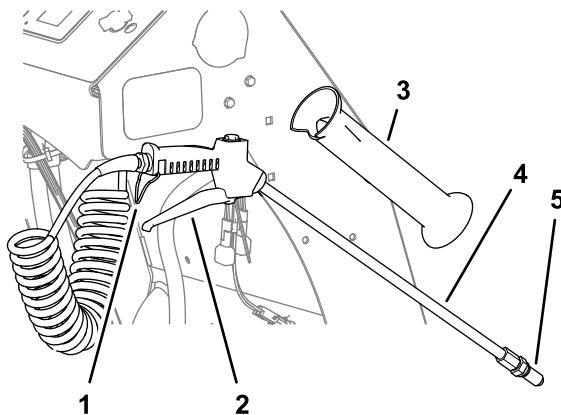

Figure 56
1. Remove the wand from the holder at the right side of the machine (Figure 56).
4. Squeeze the trigger to the spray-wand handle to begin spraying; lock the trigger in place if desired (Figure 56).
5. When finished spraying, if you locked the trigger of the spray-wand—unlock it, and release the trigger (Figure 56)
7. Insert the wand into the wand holder (Figure 56).